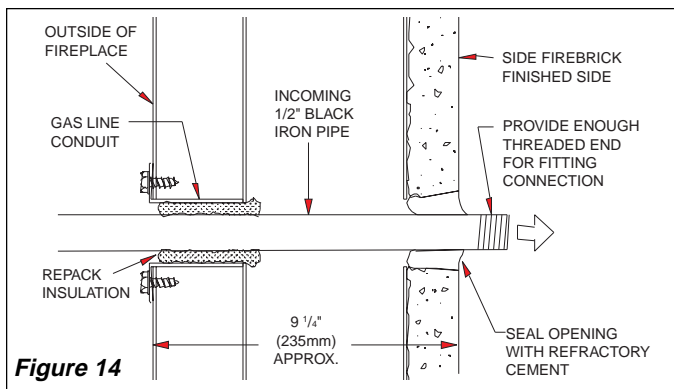

Figure 14
STEP 3: Run a 1/2" black iron gas line into the firebox through the rear at 11 1/4" from the floor and through gas line conduit sleeve (if using a raised platform. Add height). Provide sufficient gas line into firebox chamber for fitting connection (see Figure 14).